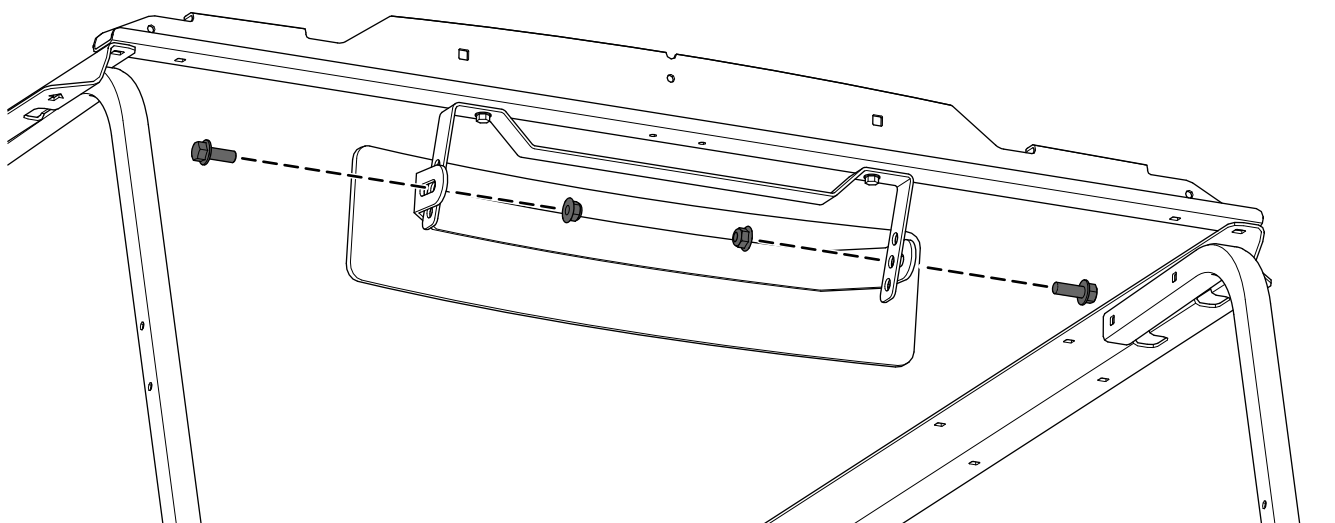

Figure 5
2. Secure the wide-angle mirror to the mount using 2 flange-head bolts (3/8 x 1 inch) and 2 locknuts (3/8 inch) as shown in Figure 5.